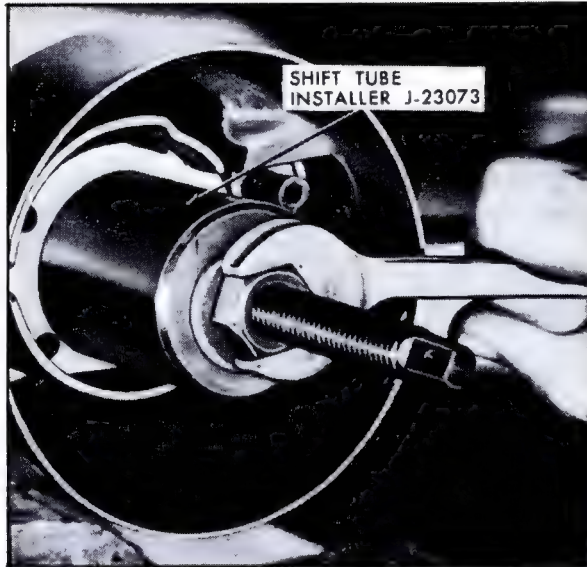

Fig. 9-56A Installing Shift Tube
7. Using alignment marks on Shift Tube Installer, J-23073, align shift tube key with keyway in shift bowl and install remaining parts of Shift Tube Installer, J-23073, Fig. 9-56A.
8. Tighten nut on Shift Tube Installer, J-23073, and install shift tube Fig. 9-56A.